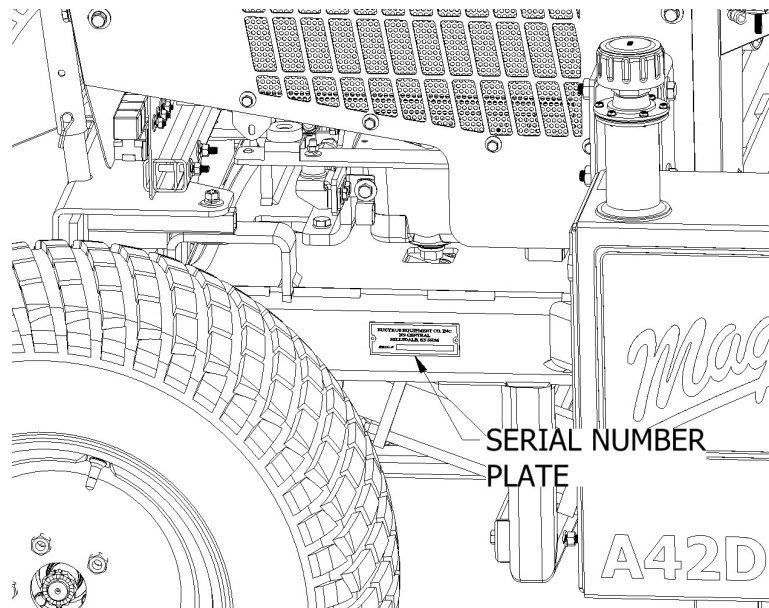

Figure 1.1 – Serial Number Plate Location
The machine ID or Serial Number (SN) must be used with any correspondence regarding warranty or service. See Figure 1.1 for the location of the serial number plate.